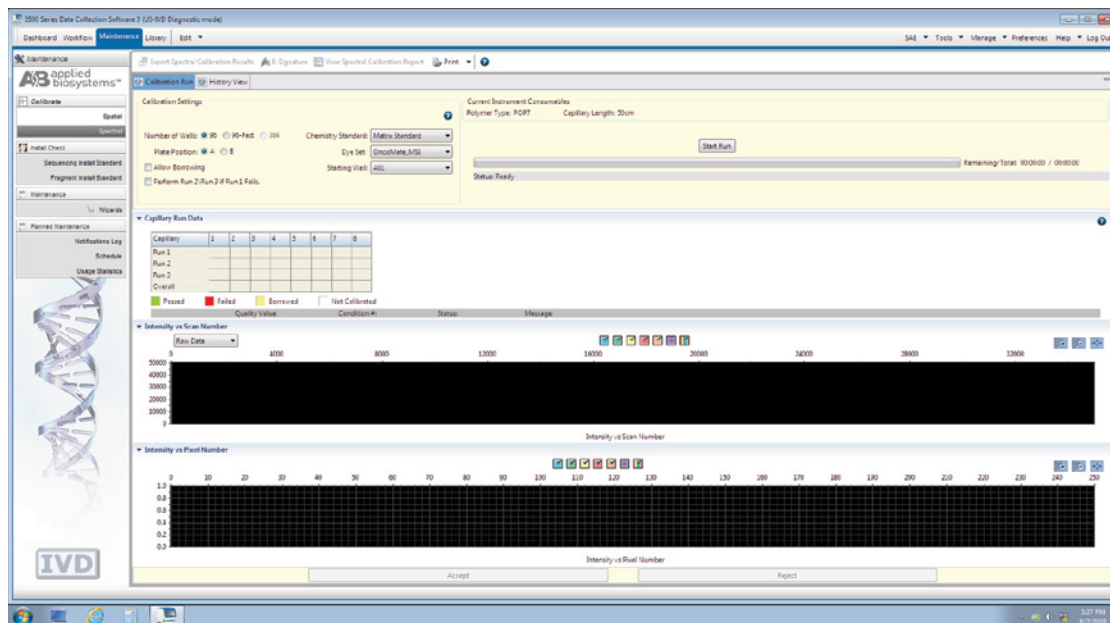

Figure 2. Calibration Run window.
2. Under Calibration Settings, choose **Matrix Standard** as the Chemistry Standard, **OncoMate_MSI** as the Dye Set and **A01** as the Starting Well. See Figure 2.